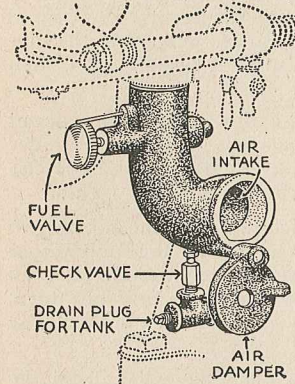
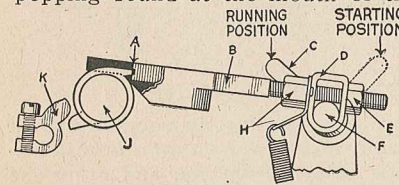

Figure 2.
Figure 4.
**First.** Open the fuel valve on mixer two full turns to the left and turn the air damper up so it closes the opening in the mixer (see Figure 2), turn on the oil by raising the lever on the lubricator and be sure the oil is dropping properly.
**Second.** Turn the timing lever "C" away from the magneto to the starting position, as shown in Figure 4. This retards the spark and prevents the engine from kicking back when you start it.
**Fifth.** As soon as engine starts turn the air damper down to position as shown in Figure 2, push the timing lever "C" (Figure 4) toward the magneto to the running position and close the fuel valve slowly until the point is reached where the engine runs with the least number of explosions and without black smoke appearing at the exhaust or a popping sound at the mixer. A popping sound at the mouth of the mixer is caused by an insufficient supply of fuel, and smoke at the exhaust by too much fuel.
**Second.** Place the timing lever "C" (Figure 4) in the starting position and turn the flywheels to the right until the igniter trips, then stop.